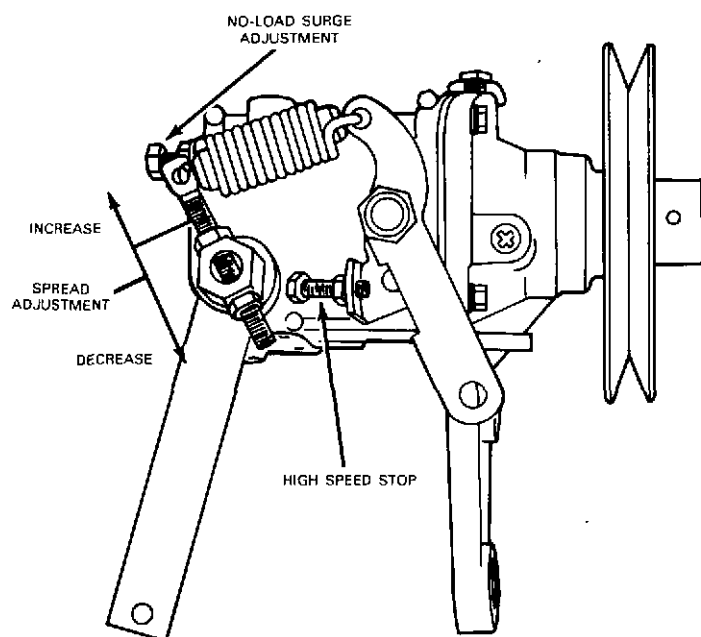

FIG. 3 Governor Adjustments
4. Adjust the high-speed stop screw on the governor to attain the desired maximum engine speed. (Fig. 3). Do not exceed the recommended maximum rpm.